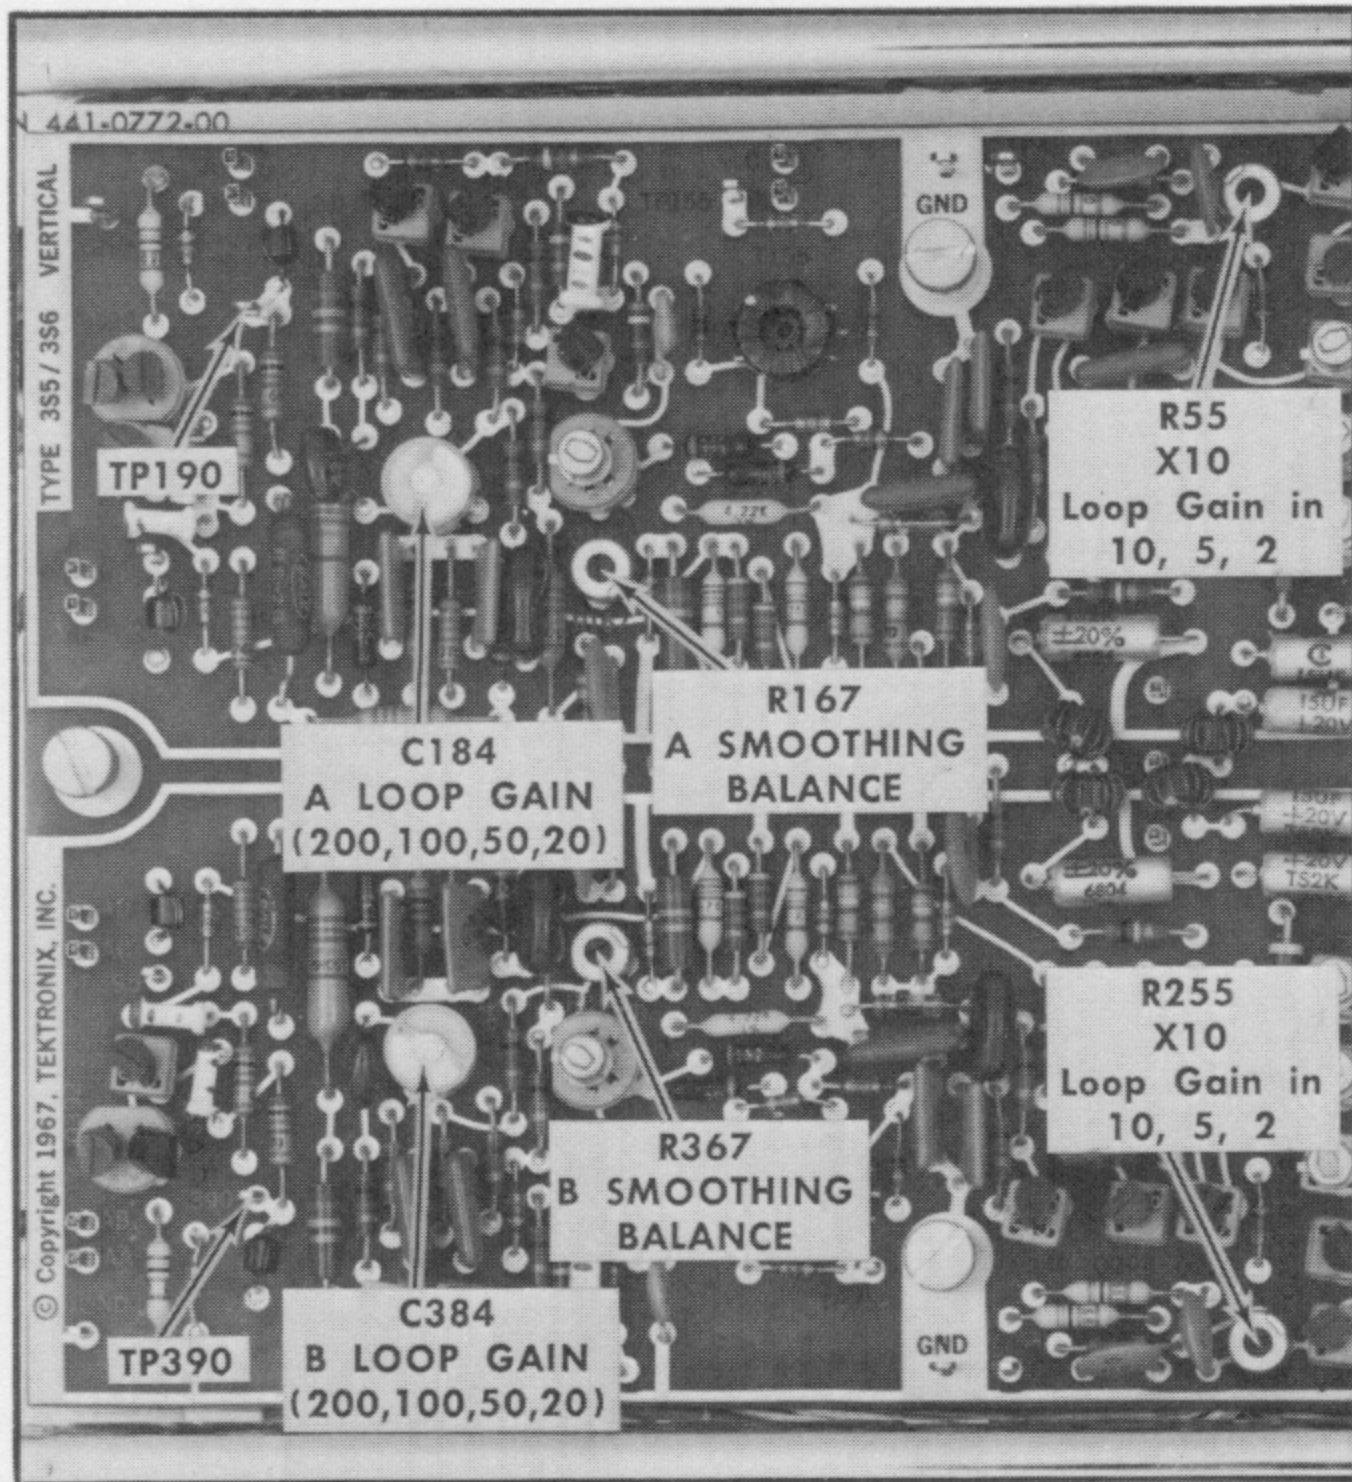

Fig. 7-10. Vertical circuit board control locations, left side.
c. Turn the NORMAL-SMOOTH control to SMOOTH and note the trace shift. If the trace moves vertically, readjust the Channel B SMOOTHING BALANCE control R367, (shown in Fig. 7-10) until there is no trace movement as the NORMAL-SMOOTH control is switched between its two positions.
Change the Type 3S5 Mode switch to CH A. Readjust the Channel A SMOOTHING BALANCE control R167, shown in Fig. 7-10, until there is no trace shift as the NORMAL-SMOOTH control is switched between its two positions.